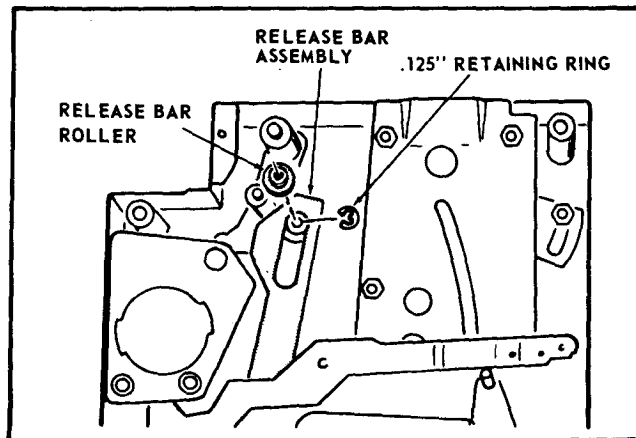

FIGURE 8
20. Remove the Retaining Ring which attaches the Release Bar Roller and Release Bar Assembly to the upper mounting stud. See Figure 8.
25. Install the Roller, removed in step 21, on the stud. The larger diameter face of the Roller is to be down, toward the Bar Assembly. See Figure 8.